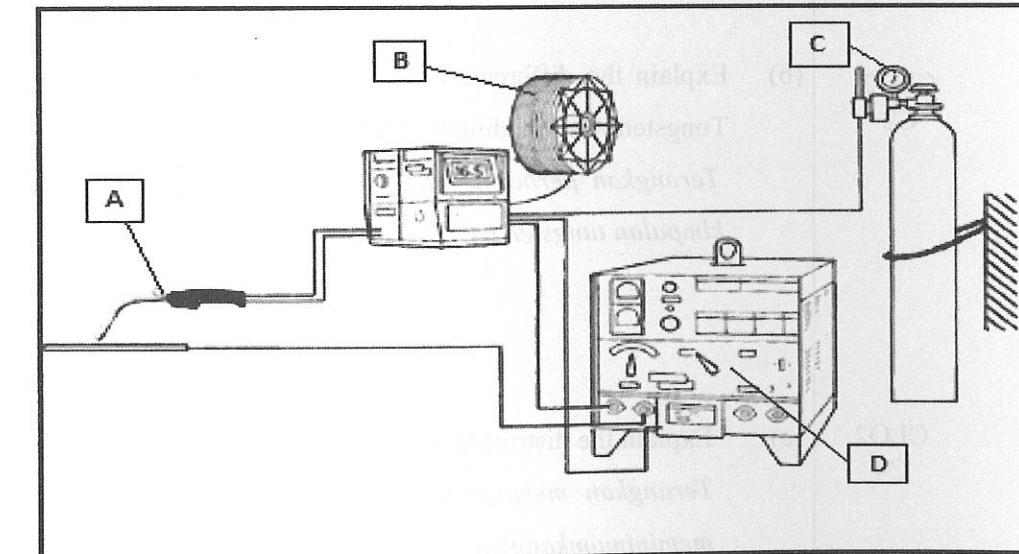

Figure 4a (iii) / Gambarajah 4a (iii)
- (iii) Based on Figure 4a (iii) below, name FOUR (4) main parts of GMAW (MIG) welding machine.